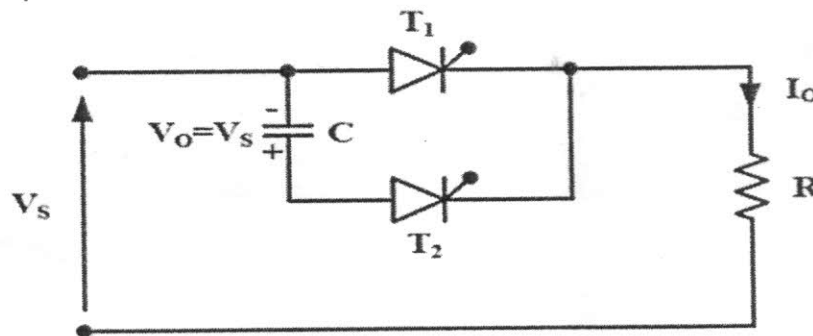

Figure Q.4.b
- An impulse commutated thyristor circuit is given in Figure Q.4.b. Determine the circuit turn-off time if $V_s = 230 \text{ V}$, $R = 20 \Omega$, $C = 10 \mu\text{F}$, and $V_0 = V_s$. Also, determine the voltage across the capacitor at the instant of commutation.